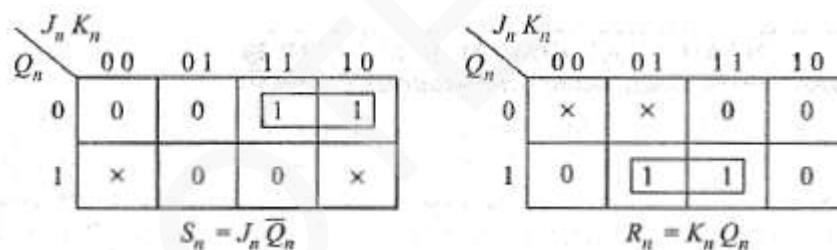

Figure 8.42: K-Map and Design equations for SR inputs
- K-Map derived from Table 8.2 for SR inputs are shown in Fig. 8.42 along with their design equations.